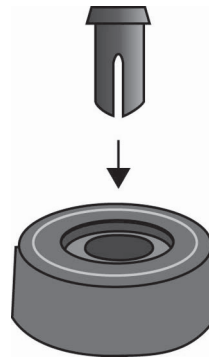

Figure 44. Inserting the Rivet Housing into the Bumper Foot
- a. Insert a rivet housing into a bumper foot. Refer to Figure 44.